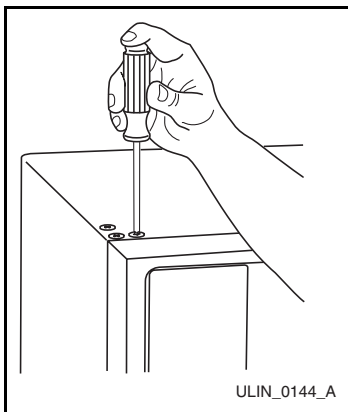

Figure 27
- Remove three plastic screw plugs in hinge holes, top of cabinet, opposite side, being careful not to scratch cabinet (**Figure 27**).